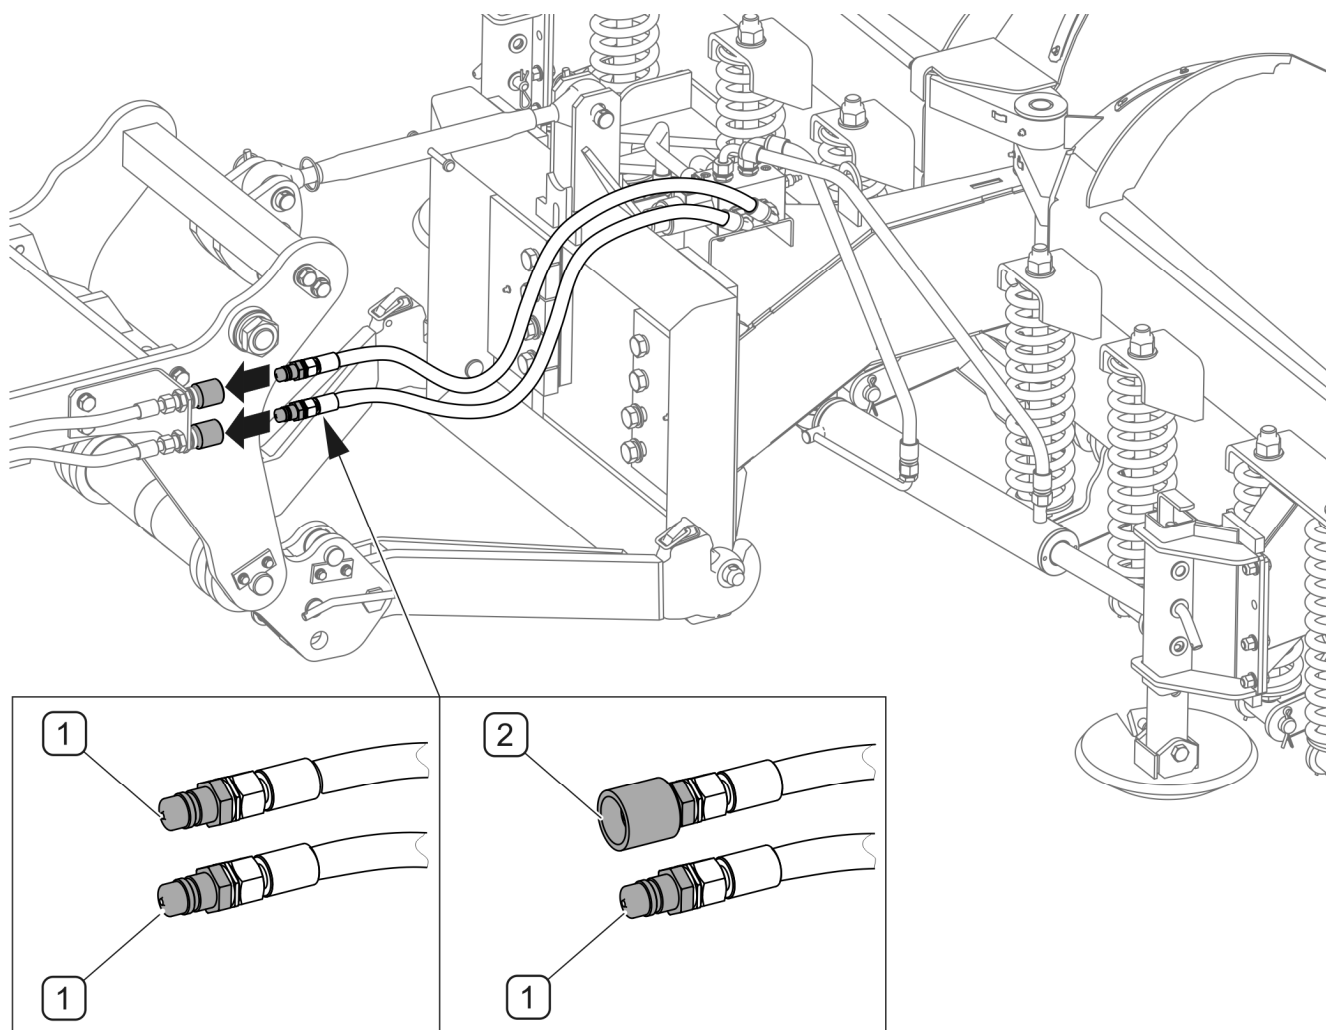

FIGURE 4.2 Connecting the hydraulic system
The snowplough's hydraulic quick couplers (FIGURE 4.2) should be connected to two connections in one section of the carrying vehicle's external hydraulic circuit. Depending on its version, the machine can be equipped with two hydraulic conduit plugs (1) or a plug (1) and a hydraulic socket (2).